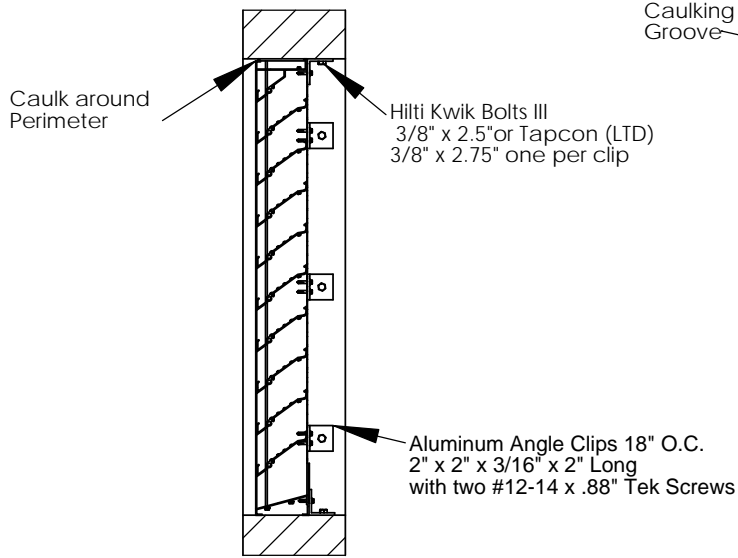

Fig. 1 - DC-436-1
1. **Anchoring into Concrete or Masonry:** See **Fig. 1 & 2**, Model **DC-436-1, DC-436-2** for detailed instructions.
2. Install louver into opening. Shim as required at each set of installation anchors using load-bearing shims. Max allowable shim stack to be ¼". Use shims where space greater than 1/16" is present. Fasten angle clips to DC-638-1 louver with two (2) # 12-14 x .88 TEK screws. Use 3/8" Dia. Hilti Kwik Bolt III of sufficient length to achieve min. of 3" embedment into concrete or masonry with min. 2 1/2" edge distance.